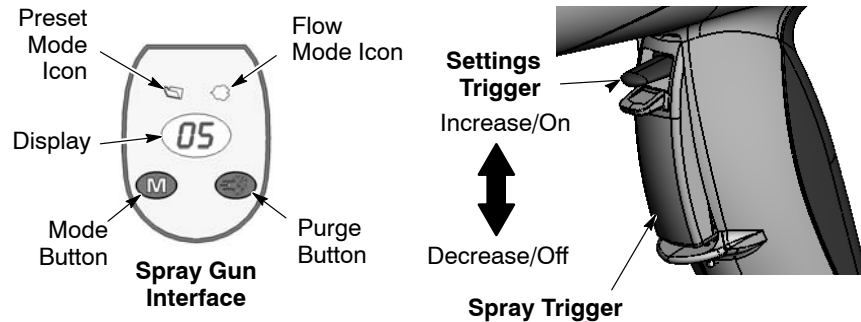

Figure 4-3 Gun Controls
1. See Figure 4-3. Release the spray trigger. Presets cannot be changed while the gun is triggered on.
1. See Figure 4-3. Press the **Mode** button until the **Flow Mode** icon is lit.
1. See Figure 4-3. Point the gun into the booth and release the spray trigger.